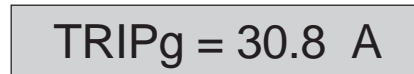

Figure 48: Ground fault trip current measurement
- “TRIPg”: ground fault trip current; see figure 48 for an example